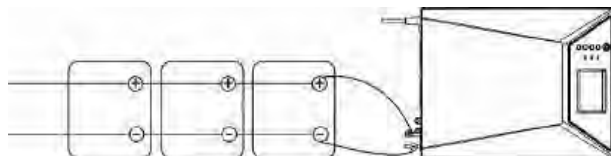

Fig. 3
2) **Multiple batteries in parallel connection(Refer to Fig. 3):** Each battery's voltage must be equal to the Nominal DC Voltage of the unit.